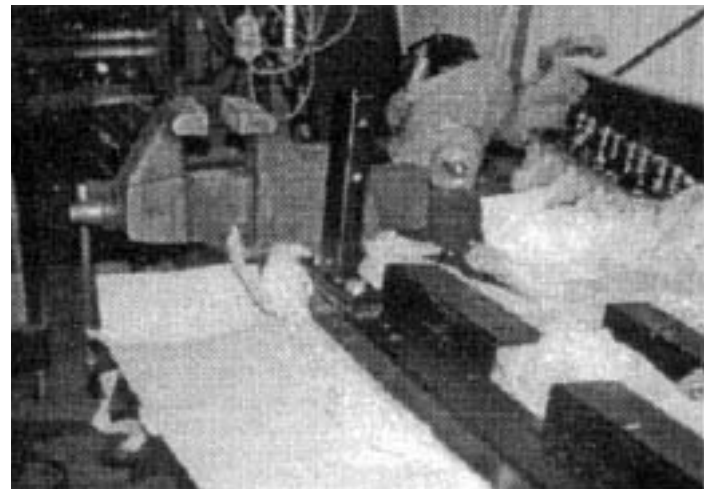

Fig. 7
15. Loosely install arms on sill front arm curve up (rear arm straight) using 13mm bolt (see fig 7).